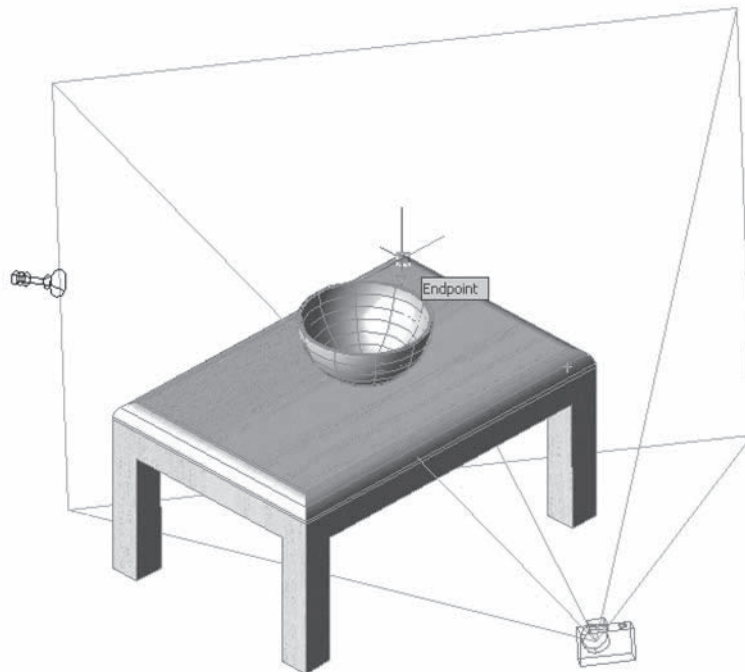

Fig. 47-6
5. For the target position, pick the right rear corner of the tabletop, as shown in Fig. 47-6.